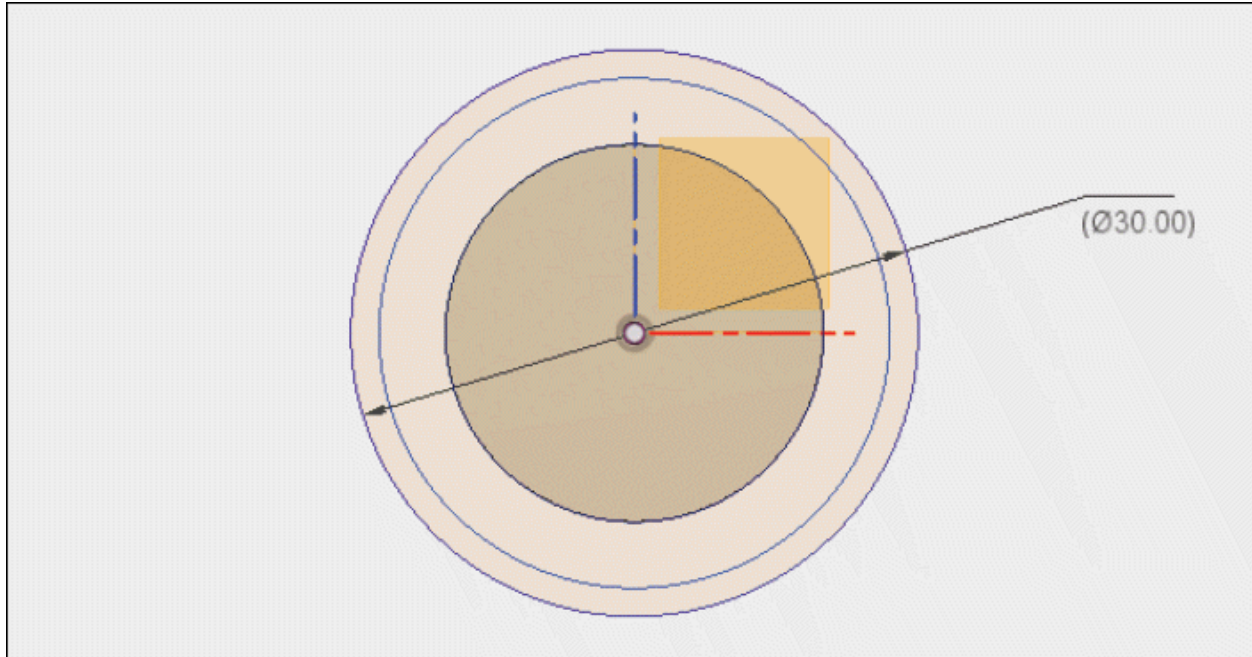

Figure-81. Creating fifth sketch for Jug
- Create the sketch as shown in Figure-81 on newly created offset plane.